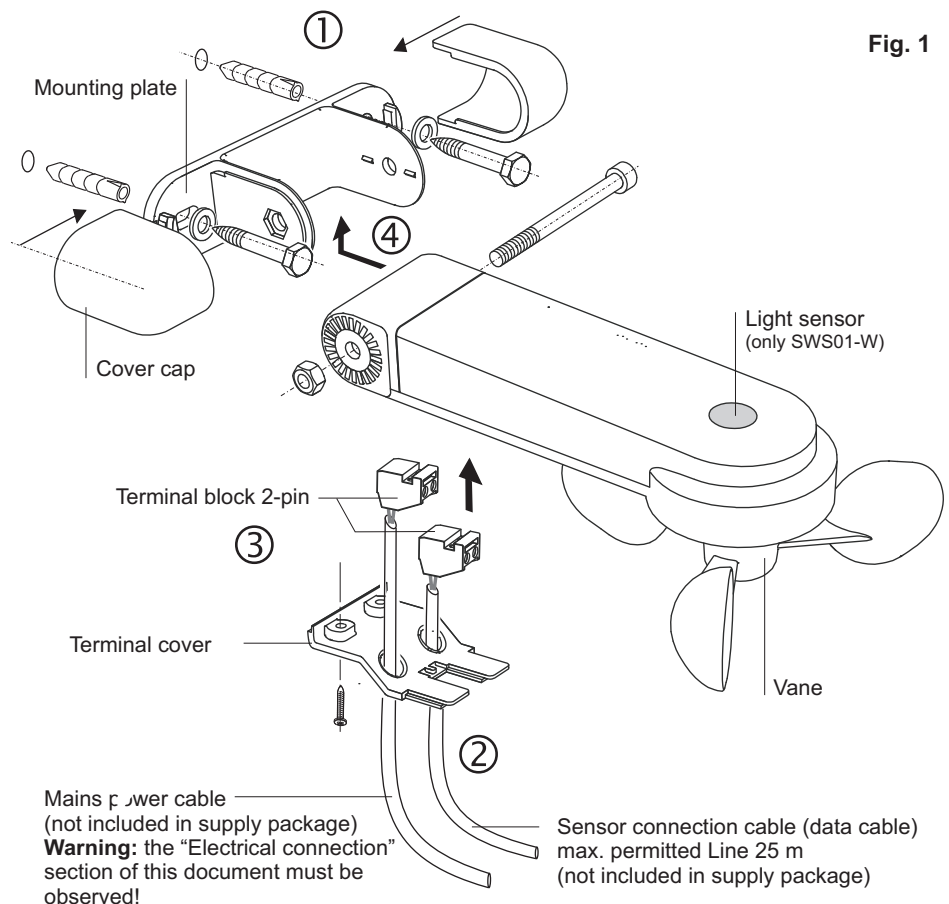

Fig. 1
2. Snap the terminal cover onto the lower section of the sensor housing and screw it tight with the pan head screws provided (see Fig. 1).